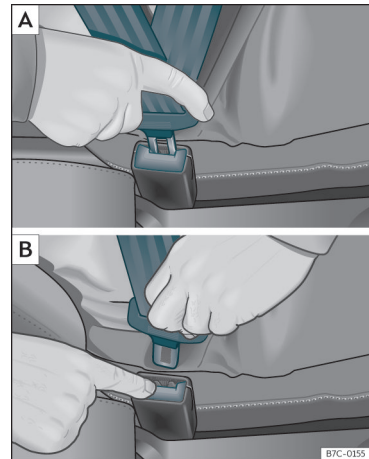

Fig. 79 Positioning and removing the seat belt buckle. »
» **Fig. 79 A.**
- Press the red button on the belt buckle »» **Fig. 79 B.** The latch plate is released and springs out »» .